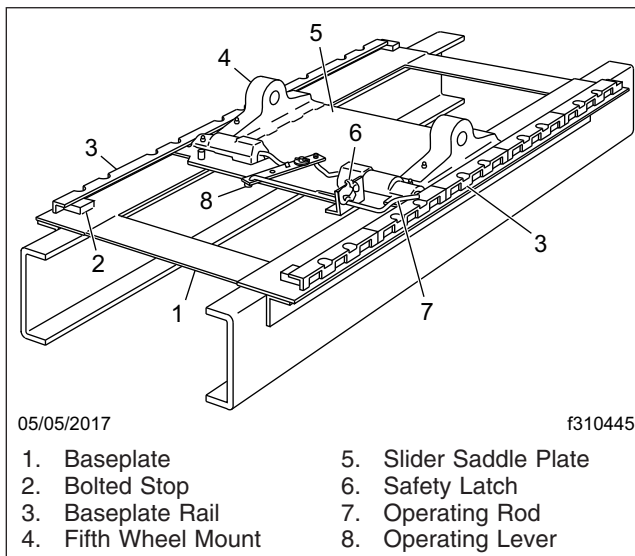

Fig. 18.14, Sliding Fifth Wheel Manual Release, Holland Simplex
- 2.2 **Holland:** Pull the operating rod out. Make sure both side plungers have released. See Fig. 18.14.